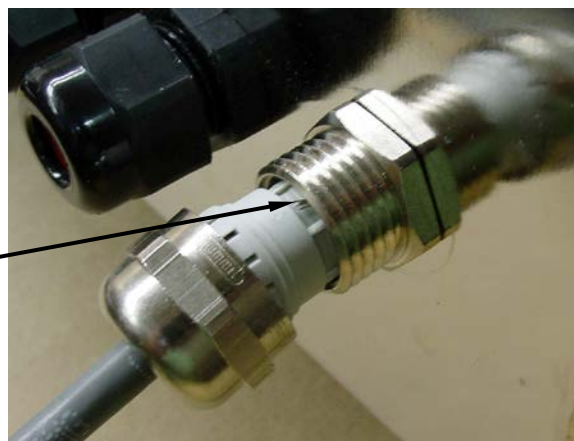

Figure No. 10
14. The shield wire is secured when tightening the gland connector nut. Do not overtighten the connector but make certain it is snug. See Figure No. 10.